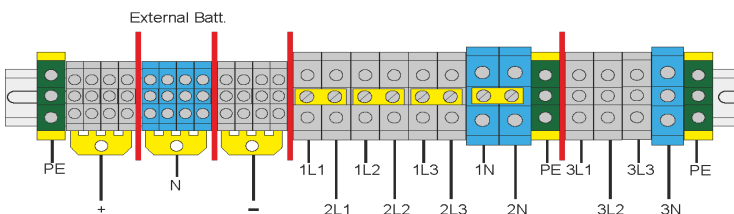

Figure 4.4 Terminal block connections
1. Connect an earth cable from the input mains switchboard to the UPS protective earth terminal (PE).
2. If an external battery cabinet is used, connect an earth cable between the battery cabinet and the UPS battery earth terminal (PE).
3. Ensure the single-feed links, shown in yellow in Figure 4.4, between the input mains terminals and bypass mains terminals (i.e. 1-L1 to 2-L1, 1-L2 to 2-L2 and 1-L3 to 2-L3) are fitted.
2. If the bypass mains supply is obtained from a different mains switchboard to the input mains supply, connect an earth cable from the bypass mains switchboard to the protective earth terminal (PE).
3. If an external battery cabinet is used, connect an earth cable between the battery cabinet and the UPS battery earth terminal (PE).
4. Remove the single-feed links, shown in yellow in Figure 4.4, between the input mains terminals and bypass mains terminals (i.e. 1-L1 to 2-L1, 1-L2 to 2-L2 and 1-L3 to 2-L3). Leave the neutral link connected between 1N and 2N.